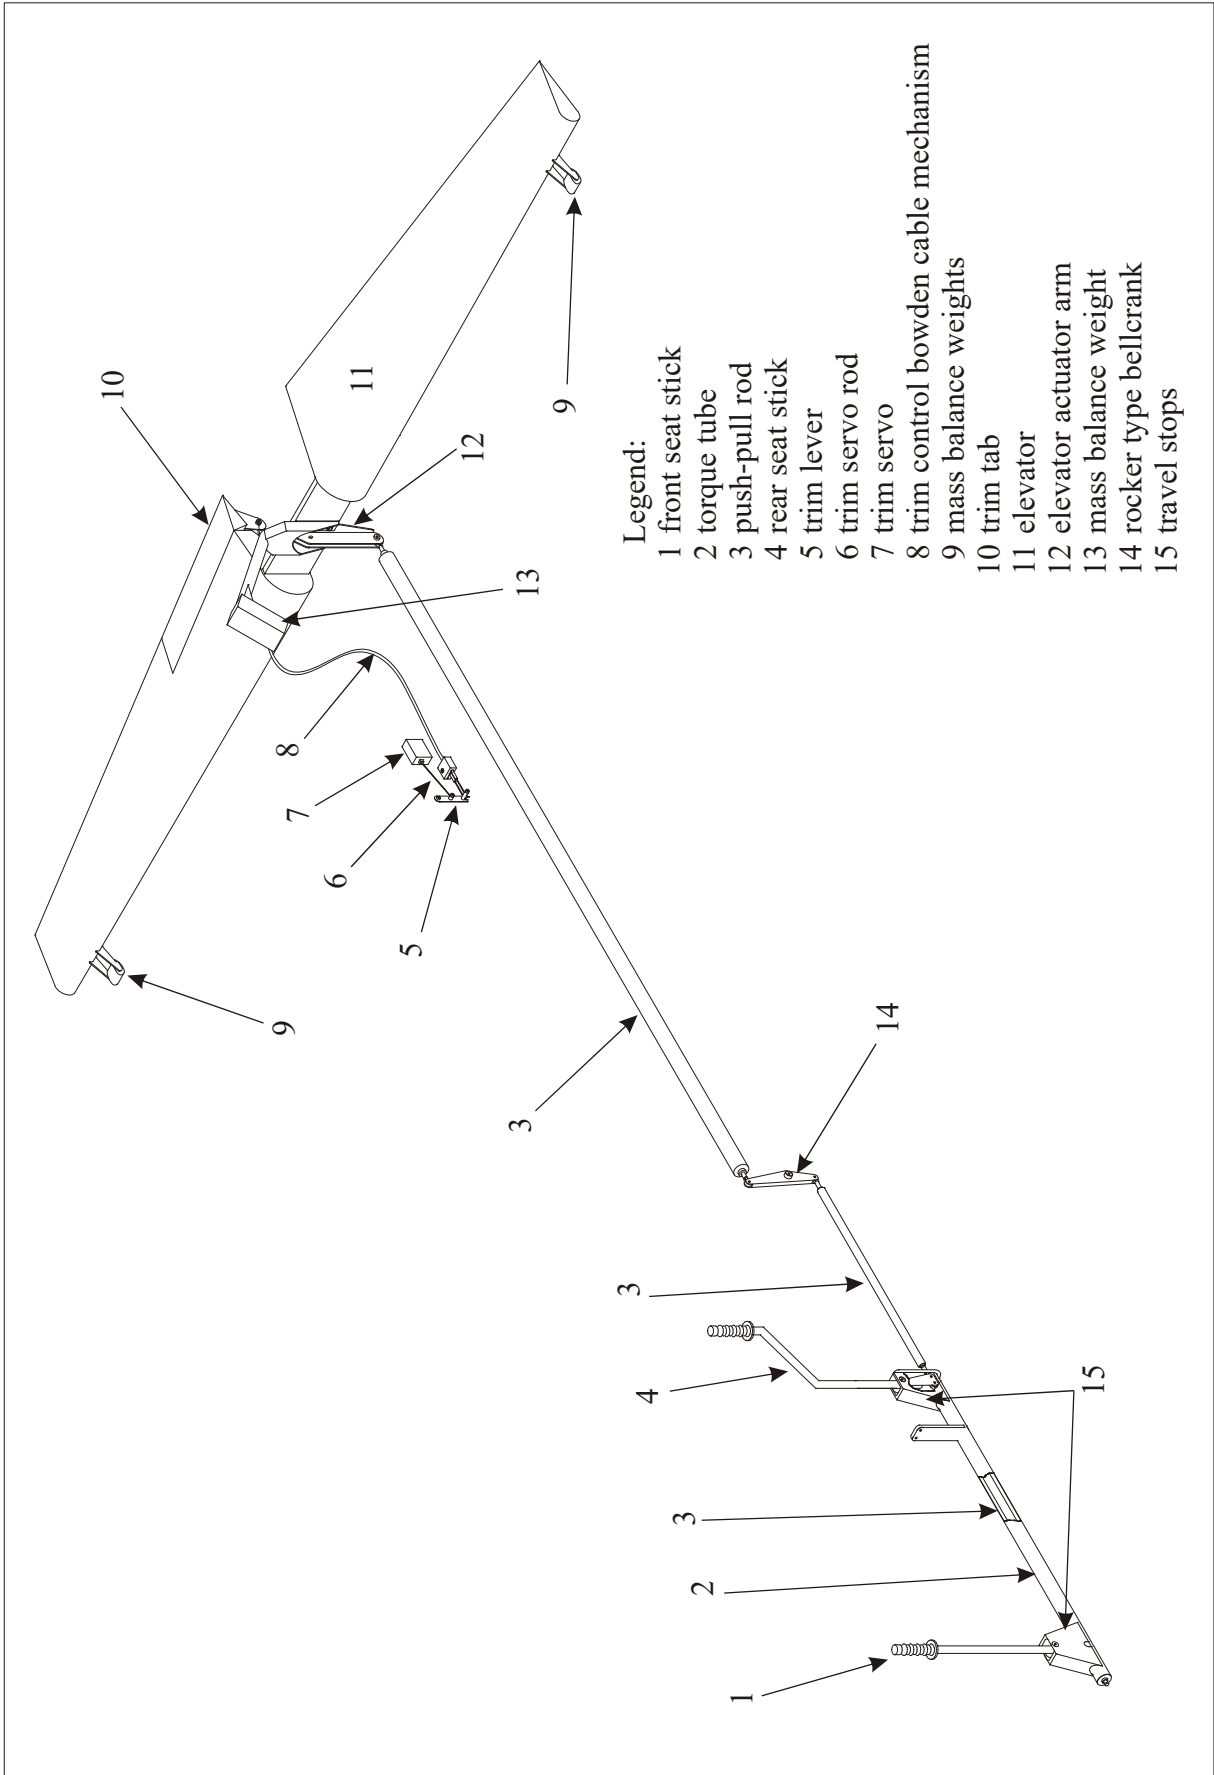

Figure 18
Refer to Figure 18.
- 1 Secure the rear control stick in neutral position (See Figure 18).
- 2 Adjust trim to slightly below middle position. 6th LED on trim position indicator illuminates (1).
- 3 Check trim lever (4) is in neutral position (angle of  $11^\circ$ , (tolerance  $\pm 2^\circ$ ) to the firewall plane or  $79^\circ$  to upper long-erons). If it is not, proceed as follows:
- a Remove the trim servo rod (2) from the trim servo (3) and the trim lever (4) by removing the clevis pins with cotter pins and washers.
- 4 Bring the trim tab (8) in  $0^\circ$ -position (upper surfaces of elevator (7) and trim tab (8) are in the same plane) by replacing the linkage bolts (5 and/or 9).
- 5 Trim to extreme positions and check if trim tab travel is up  $35^\circ$  and down  $27^\circ$  (tolerance  $\pm 2^\circ$ ). If it is not, check free travel of the trim lever (4) and Bowden cable (6).